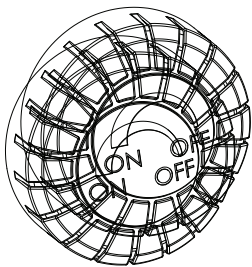

Figure 2 (Connect LP Gas Tank)
2. Lubricate the threads of the regulator valve with petroleum jelly. Insert the gas tank into the regulator valve and hand-tighten firmly (Figure 2).